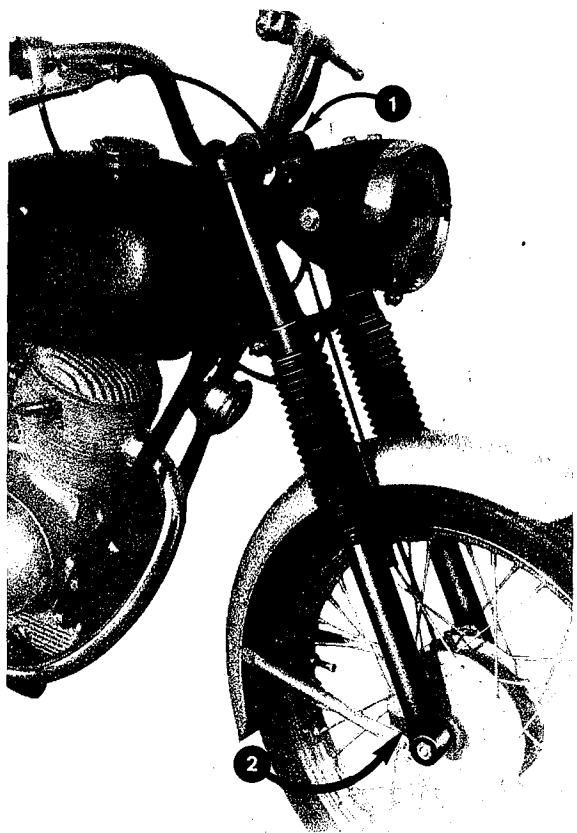

Fig. 25
4. Front suspension (see fig. 25).